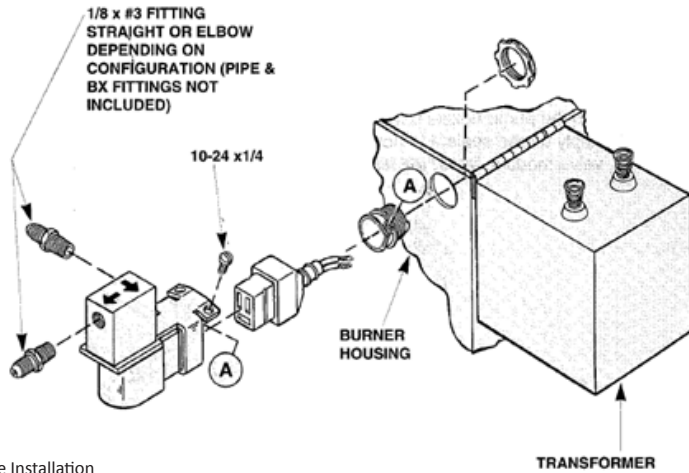

Figure 2 : Valve Installation
C. INSTALLATION – C VALVE (See Figure 2)
3. Apply thread sealant to two (2) nozzle line fittings and install in valve body. **Do not use Teflon tape as a sealant**